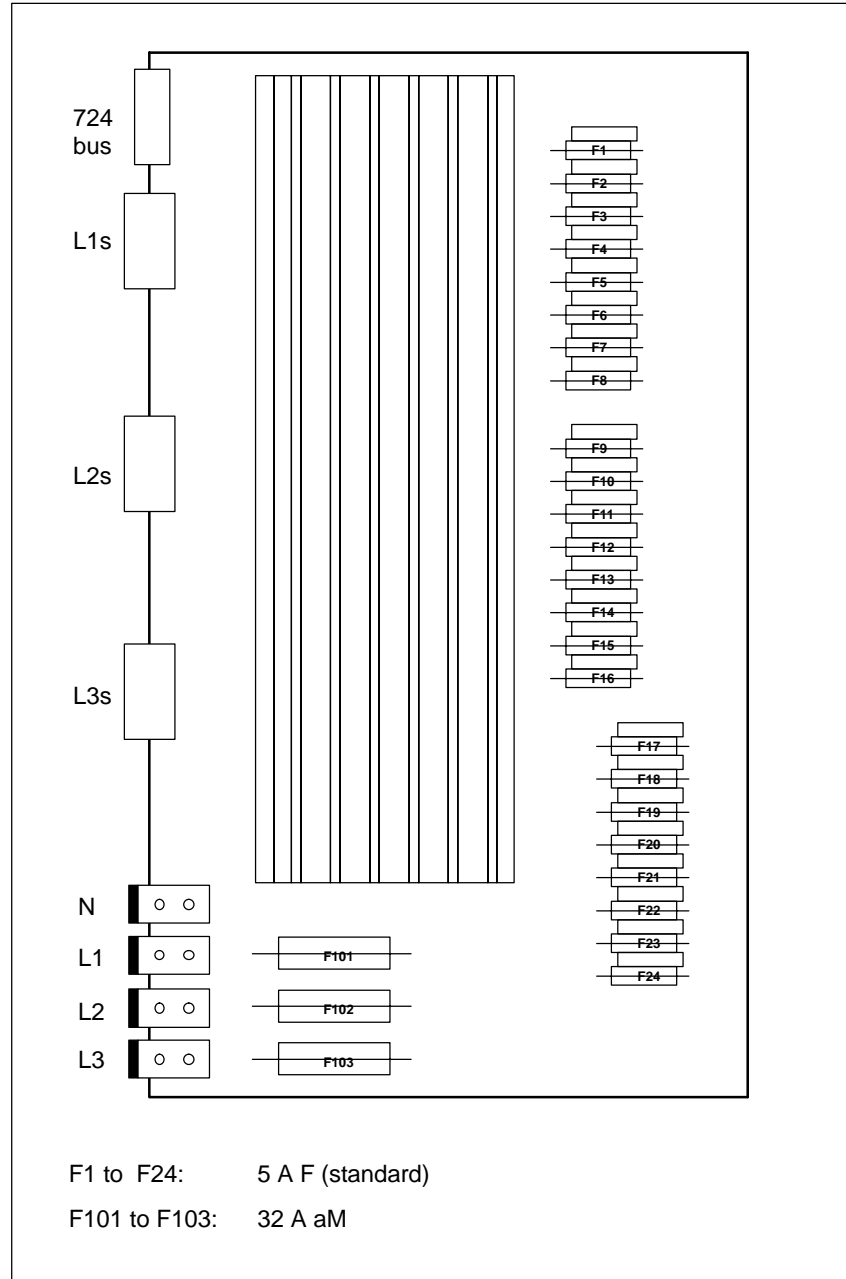

Figure 4-9 Location of the fuses on the LA 724 power output (6ES7 171-2AA01-0AA0)
- directly behind the heat dissipater (6ES7 171-2AA01-0AA0, see figure 4-9)
The phase fuses on both LA 724s (6ES7 171-2AA01-0AA0 and -2AA02-0AA0) have the same location. See figure 4-9.
7. Replace defective fuse(s) with same type. See figure 4-9 for the location of the fuses on the module.